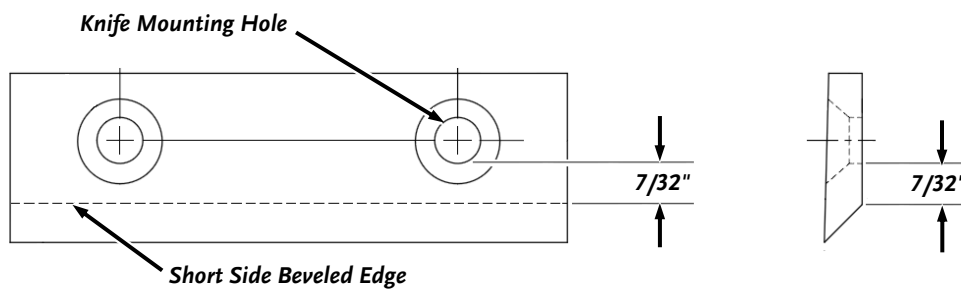

Figure 25: Sharpened Knife
- Once this measurement is below $7/32$ " (**Figure 25**), or if you are unable to remove dents or gouges with these guidelines, replace the Knife.